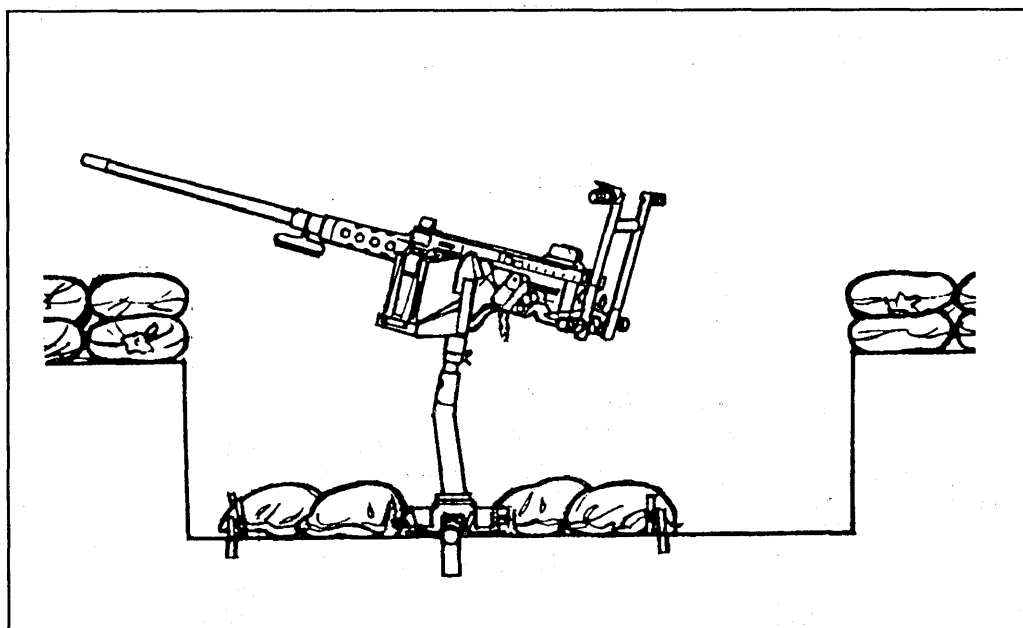

Figure 1-7. Antiaircraft mount, M63.
- (1) To set the tripod trail legs--
- (2) *To set the front leg of the tripod —*
- (3) To secure the tripod legs, stamp the metal shoe on each tripod leg into the ground. Sandbag each leg to stabilize the M2 for firing.
b. **Antiaircraft Mount, M63.** The antiaircraft mount (Figure 1-7) is a four-legged, low silhouette, portable mount used for antiaircraft fire. Table 1-3 lists the general data pertaining to the M63.